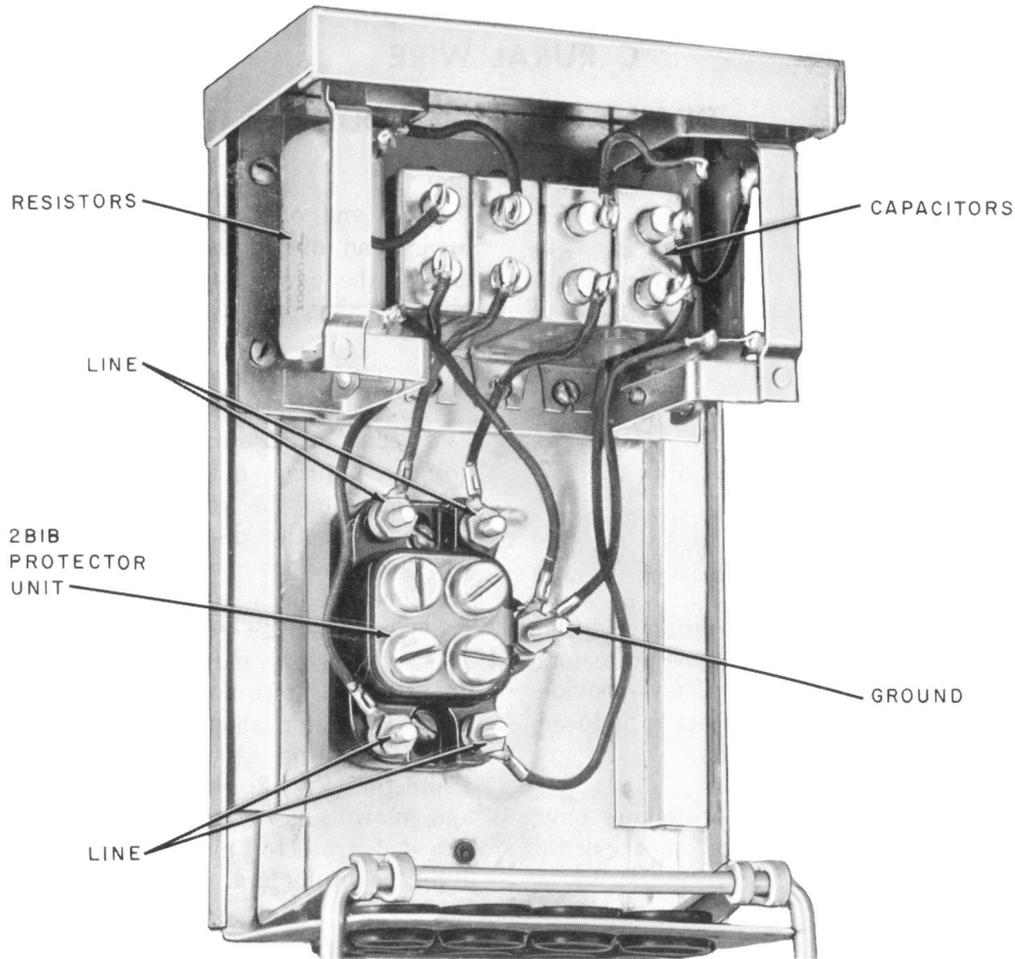

Fig. 1—Inside of 104B Protector
2.01 The 104B Protector (Fig. 1) is designed to limit the voltages that may be induced in C Rural Wire telephone circuits as a result of exposure to nearby power circuits. By providing balanced drainage paths from the two sides of the telephone circuit to ground, it reduces the induced voltages to safe values, without interfering with the normal operation of the circuit. The voltage induced in the telephone circuit depends principally on the voltage of the power circuit to ground, the distance between the telephone wires and the power wires, and certain characteristics of the telephone circuit. Each protector will serve two telephone circuits.